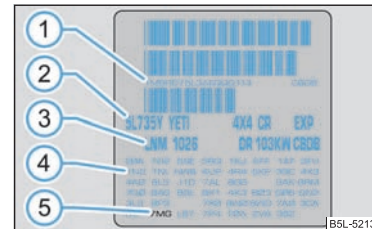

Fig. 197 Vehicle data sticker
- The vehicle data sticker ⇒ fig. 197 is located on the floor of the luggage compartment and is also stated in the Service schedule.